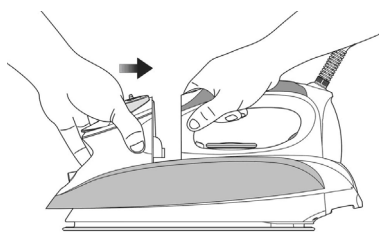

Fig. 2
2. Press the Water Tank Eject Button then push the water tank towards the main body. (See Fig. 2)